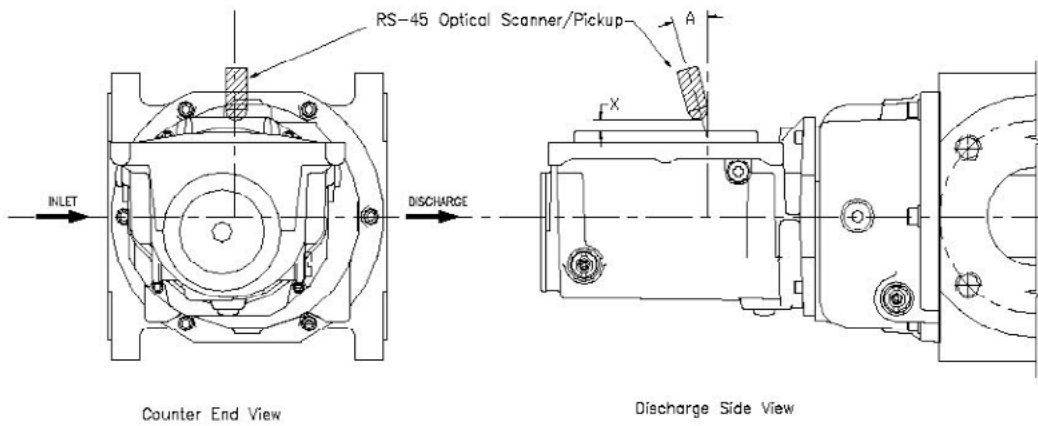

Figure 10: Optical Scanner Relative Positioning and Alignment, Series B2 (TQM) Accessory Unit
- a. Align the optical scanner as indicated in Figure 5 for Series B3 (see Figures 10 and 11 for Series B2 and A1 respectively) and hand tighten. Refer to Steps c and d for correct focusing and positioning.
Note: The distance X shown in Figures 10 and 11 should be approximately 1/2 inch (or about the width of your small finger). Set angle A slightly off-center at approximately 15 degrees.